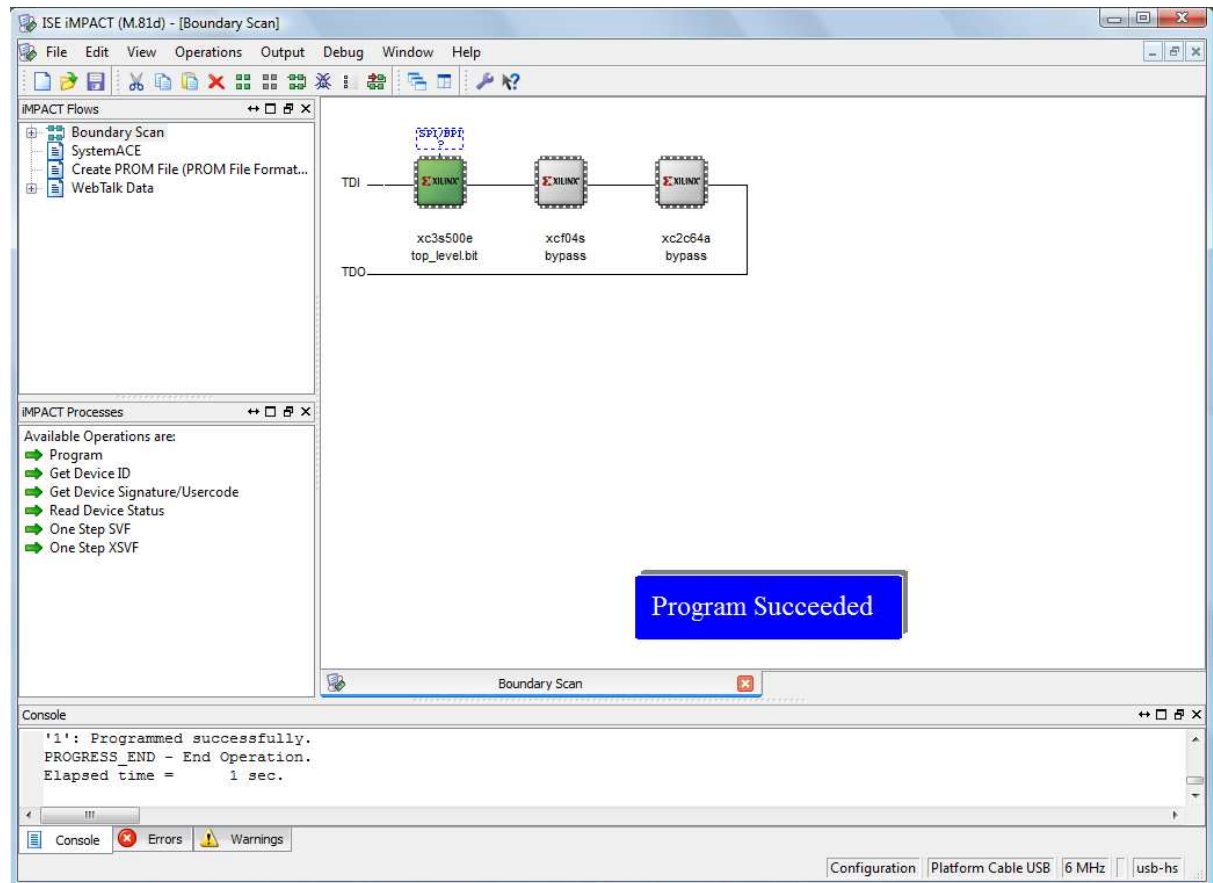

Figure 6.60: iMPACT window, after the program has been successfully downloaded to the Spartan-3E board.
14. The program should now be downloaded to the Spartan-3E board. After the download is complete, the message “Program Succeeded” will appear in a blue box (Figure 6.60).